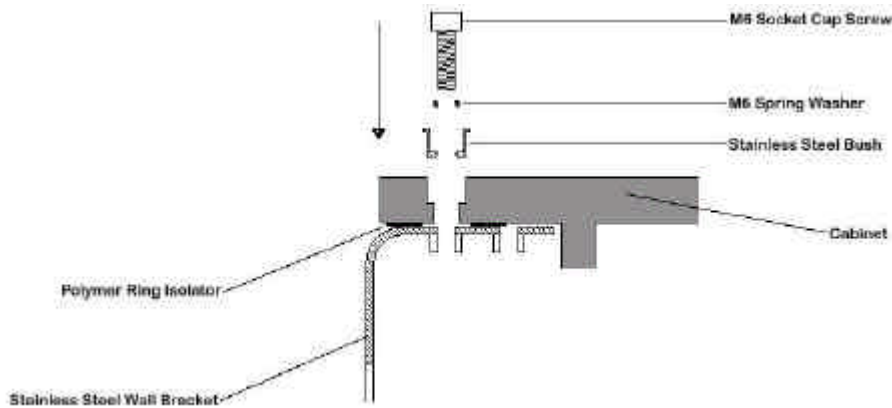

Figure 8
- The cabinet is secured to the bracket with 2 x M6 hex-drive socket cap machine screws, 2 x spring washers and 2 x stainless steel bushes. See figure 8. ALWAYS store these components safely whenever they are removed.